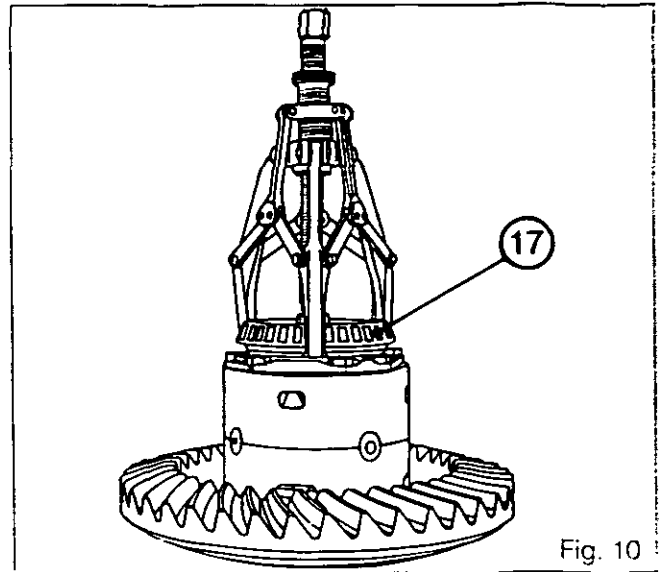
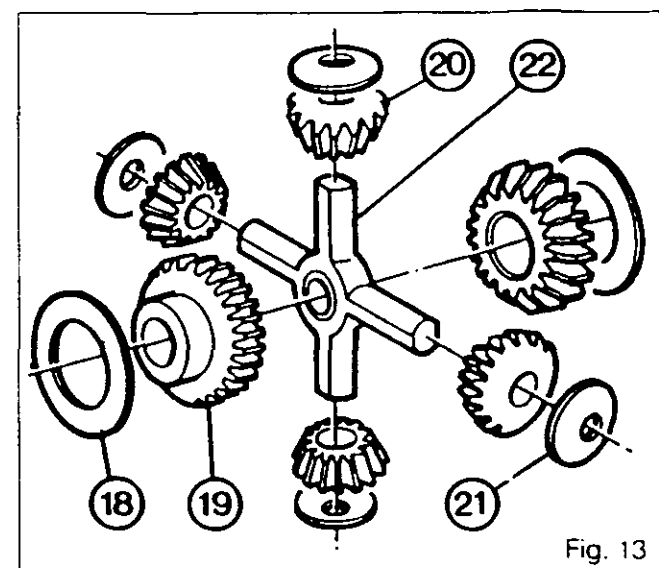

Fig. 10
Fig. 13
44. Remove the bearing cones (17) - (28) and the cup (27) (Fig. 10 - 11 - 12).
45. Remove the screws (15).
46. Remove the fixed coupler (16).
47. Separate the two parts of the housing (29).
48. Remove the washers (18), the sun gears (19), the planetary pinions (20), the washers (21) and the cross joint (22) (Fig. 13).